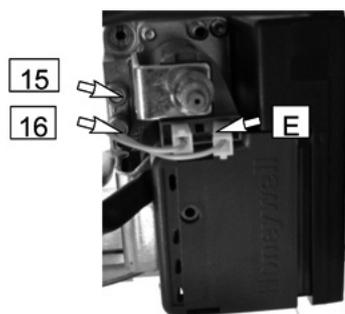

Figure 15.3
- Loosen the internal screw 15 (Figure 15.3) on the Outlet Pressure Test Point of the Gas Valve and connect a pressure gauge using a suitable hose.
- Disconnect the gas modulator coil by removing the electrical connector E (Figure 15.3).